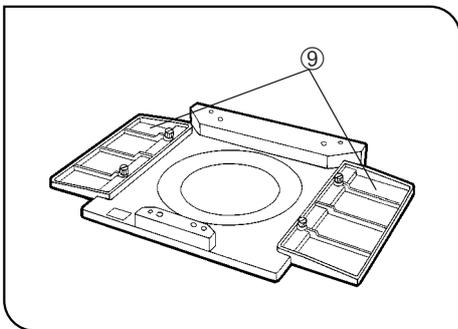

Fig. 89
⊙When the mechanical stage is not used, substages ⑨ can be attached at both sides of the plain stage. (Fig. 89)